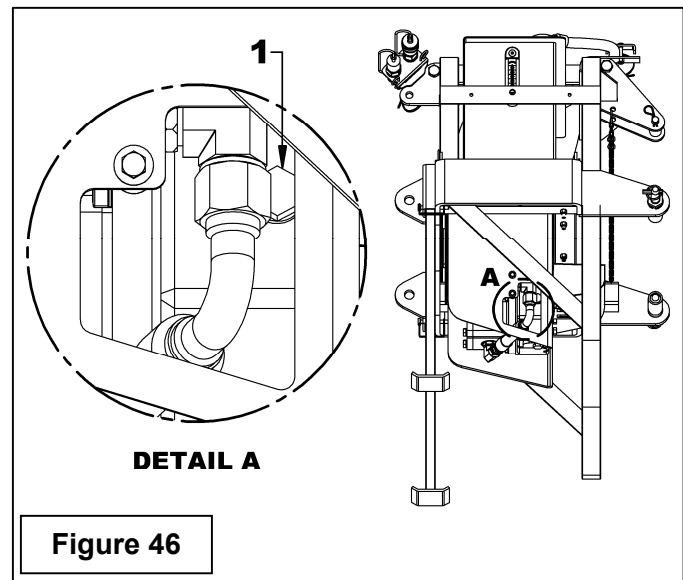

Figure 46
Figure 46: The oil level must be between the red line and blue line of the level indicator (item 1). If the level is close to the red line, add some oil to bring it back to the blue line. Make sure the oil level never goes below the red line on the indicator (item1).
Figure 46: To check the oil level, simply look through the oil level plug (item 1) located on the right hand side of the multiplier. If the gauge glass is yellowish, the oil level is good. If it's white, add someSAE80W90 oil.